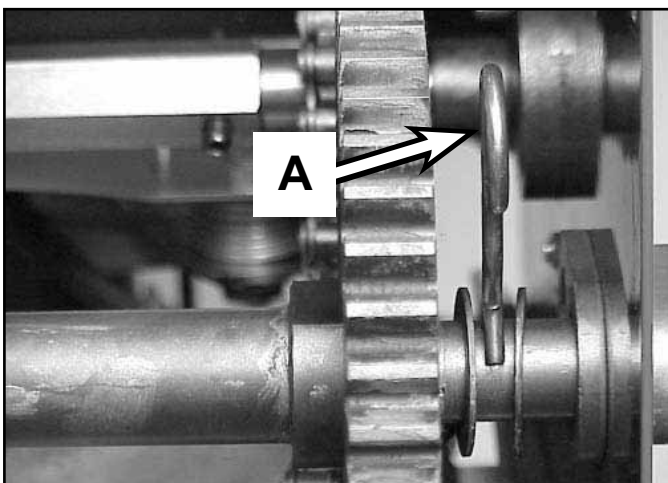

Fig 162
14. Position the hole for the hairpin cotter between the 2 washers and push the hairpin cotter into place (Fig. 162). Repeat for the other side.